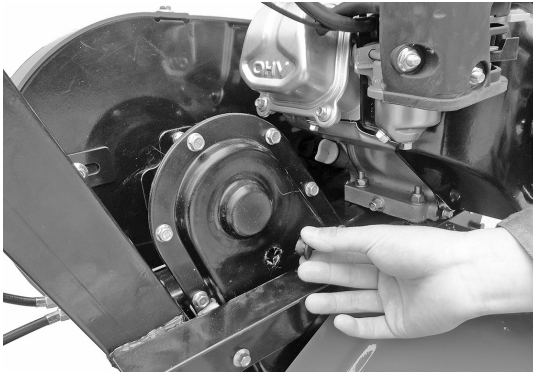

Figure 4
- Put the tiller on a horizontal ground and screw out the plug (See Fig.4).